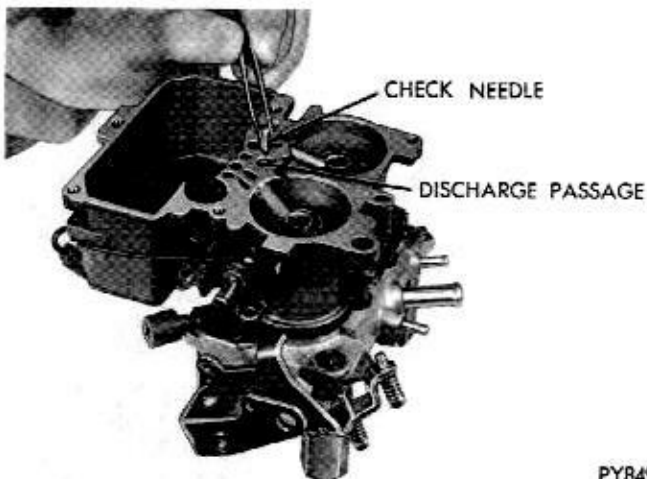
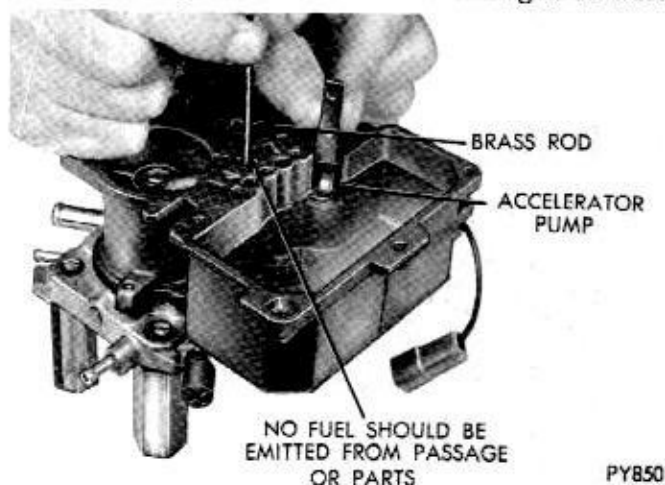

Fig. 15—Installing Accelerator Pump Discharge Check Needle
Fig. 16—Testing Accelerator Pump Discharge Check Needle
(1) Invert main body and place a new gasket in position. Place throttle body on main body and align. Install attaching screws and tighten securely.
(2) Install accelerator pump discharge check needle in discharge passage. (Fig. 15). Check accelerator pump, fuel inlet and discharge systems as follows:
(3) Pour clean gasoline into fuel bowl, approximately 1 inch deep. Slide accelerator pump plunger into cylinder. Raise plunger and press down lightly on plunger stem to expell all air from pump passage.
(4) Using a small clean brass rod, hold discharge check needle down on its seat. Again raise plunger and press downward. No fuel should be emitted from pump discharge passage. (Fig. 16).
(8) Install accelerator pump discharge check needle in pump discharge passage. (Fig. 15).